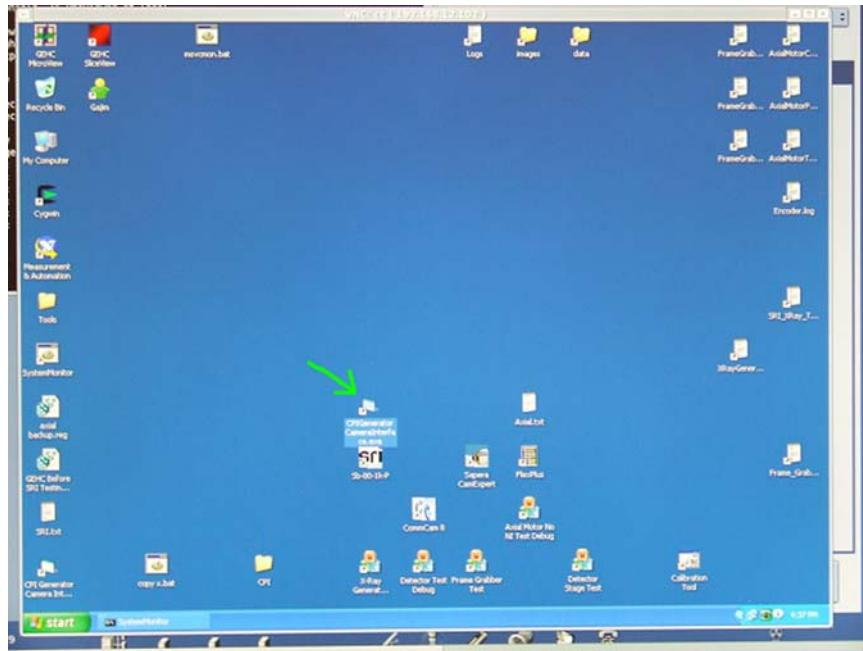

Figure 8-15
5. Double-click the icon labeled “CPIGeneratorCameraInterface.exe” on the windows desktop. (Figure 8-15)